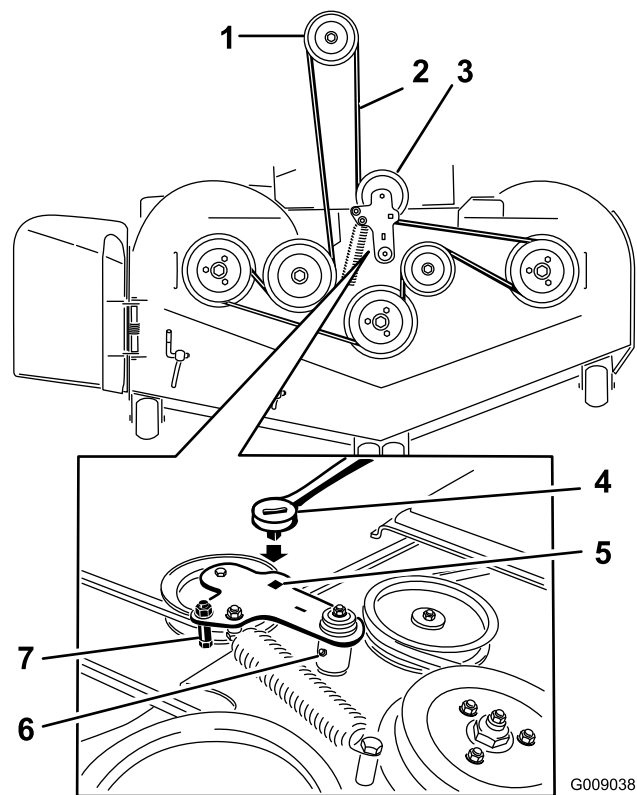

Figure 77
10. Install the belt guide on the idler arm (Figure 77).
11. Using the ratchet in the square hole, install the idler spring (Figure 77).
5. Use a ratchet in the square hole in the idler arm to remove tension on the idler spring (Figure 77).
7. Remove the belt guide on the spring-loaded idler arm (Figure 77).
9. Install the new belt around the mower pulleys and the clutch pulley under the engine (Figure 77).